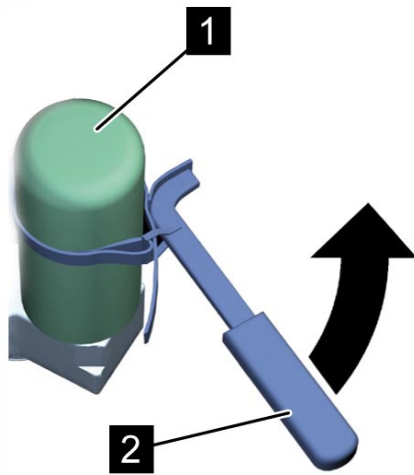

Fig. 38: Unfastening the air/oil separator
4. Use the strap wrench (Fig. 38/2) to unfasten and remove the air/oil separator (Fig. 38/1).